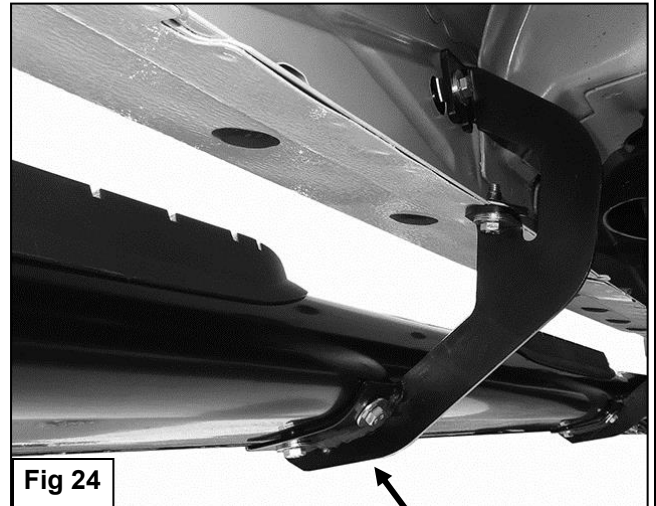

Fig 24
15. Repeat **Steps 7 & 8** to install the passenger Sidebar, **(Figure 24)**.